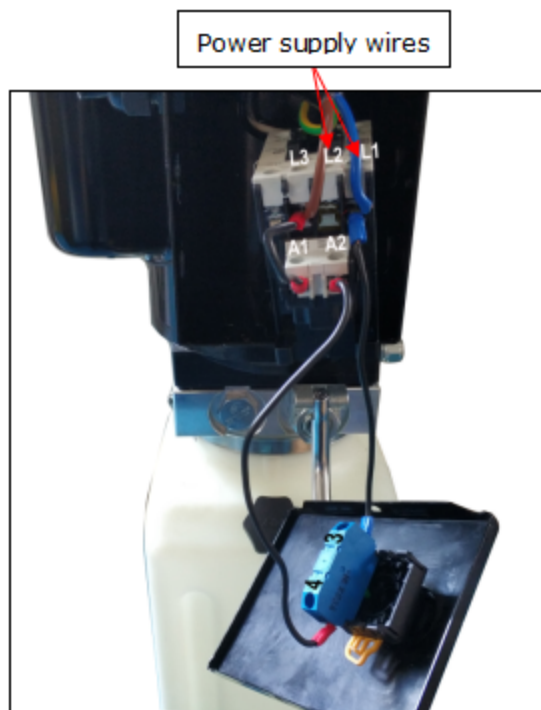

Fig. 13
2. Connection step (See Fig. 13)